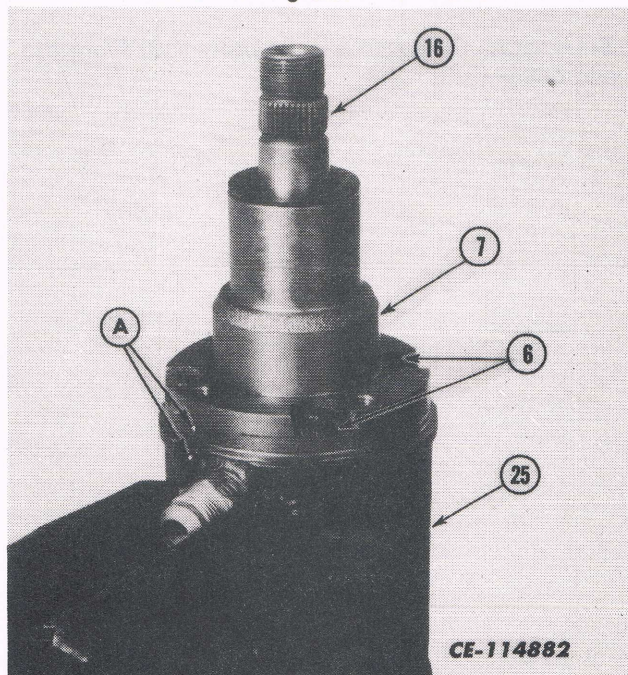

Fig. 9
3. Reclamp housing (25) in the vise as shown in Fig. 9.